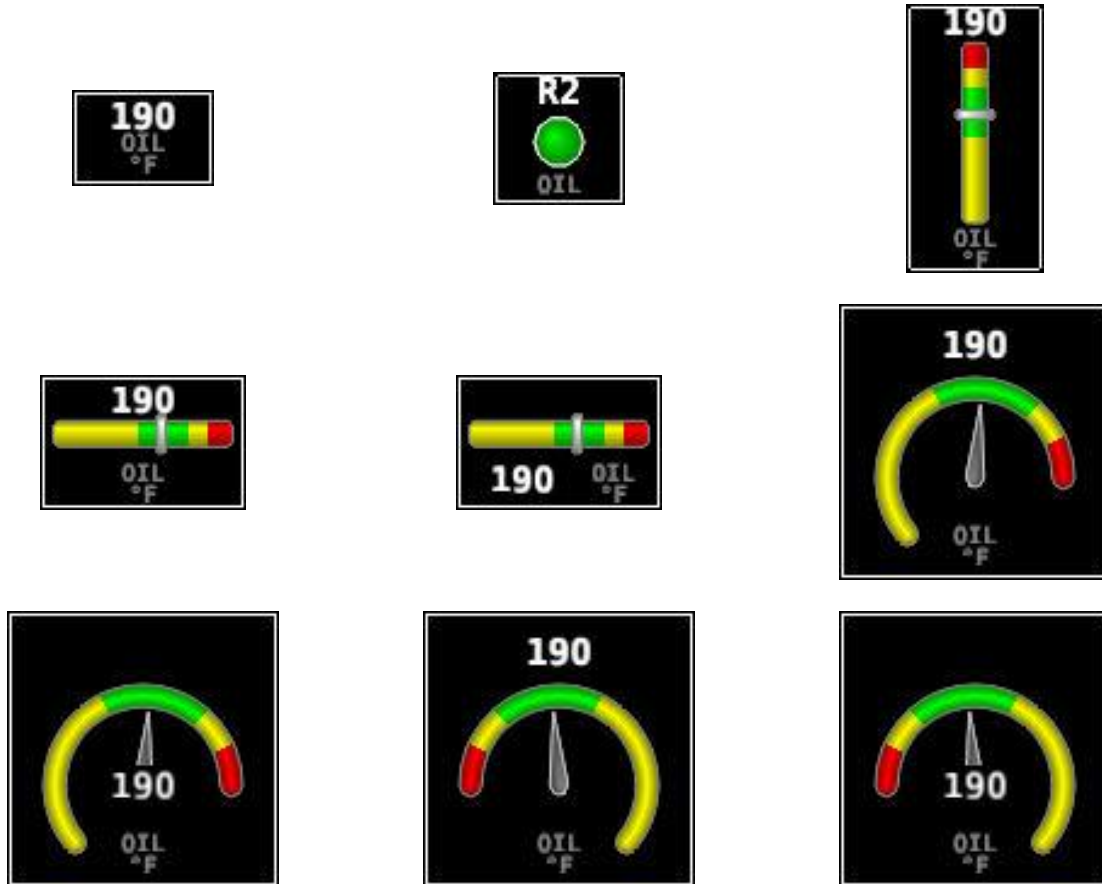
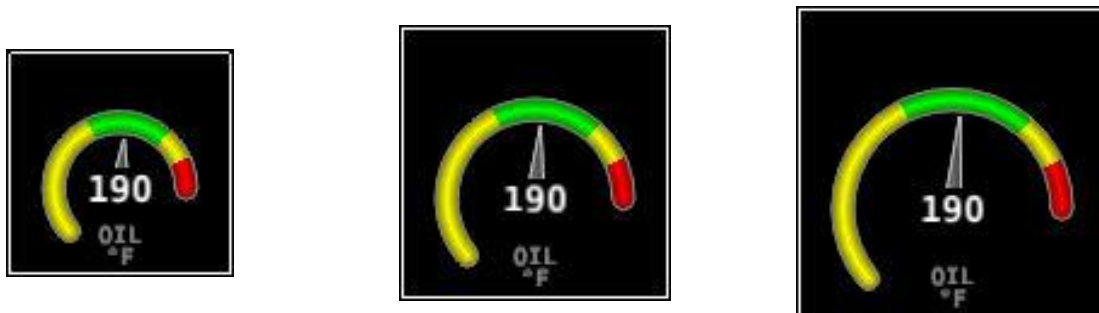

Figure 99 – Example of Oil Temperature Widget Styles
Figure 100 – Example of Oil Temperature Widget Sizes
If one SkyView display is being used as a dedicated Engine page with a 100% page layout, installer may consider using individual widgets to display the functions listed above. Individual widgets are selected from the SCREEN LAYOUT EDITOR's SENSOR list and are labeled Function (1) and Function (2). The Function (1) widget is linked to the EMS module installed for the left engine, which is configured as ENGINE #1 EMS in SETUP MENU > EMS SETUP > DUAL EMS SETUP. The Function (2) widget is linked to the right engine EMS module (ENGINE #2 EMS). These widgets come in the same style and size variations as shown in Figure 99 and Figure 100.